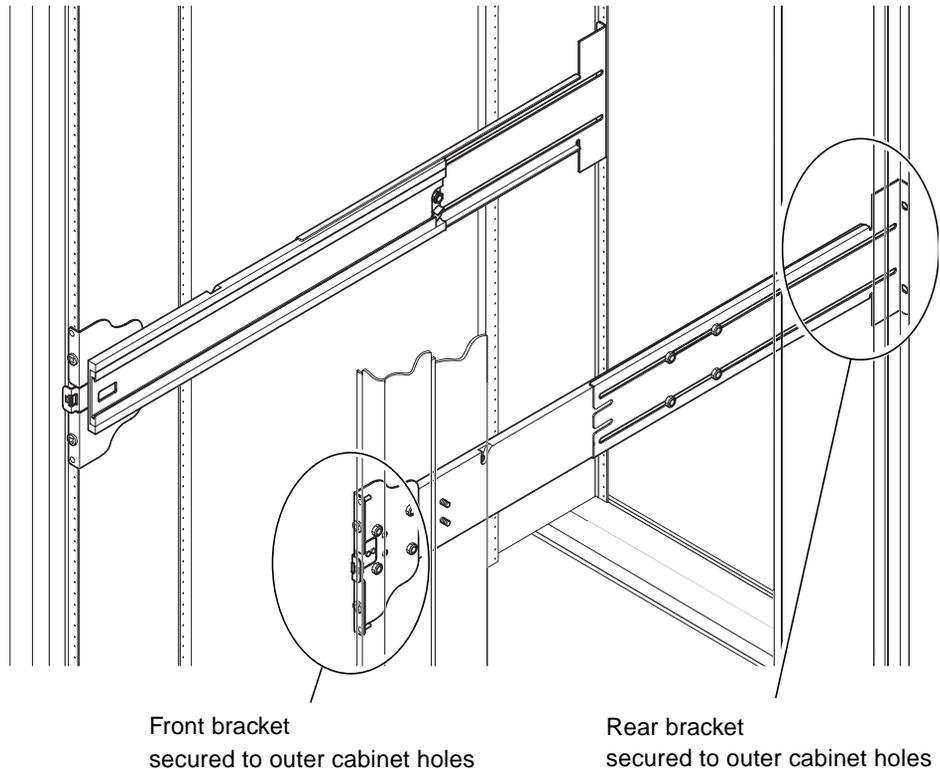

FIGURE 1-7 Installing the Rails in a Sun Rack 900 Cabinet or 19-Inch Four-Post Cabinet
3. Insert the pins in the front bracket into cabinet holes 22 and 33 (FIGURE 1-7).
3. Insert the pins in the front bracket into cabinet holes 58 and 69 (FIGURE 1-7).
3. Secure the rear bracket with two No. 10-32 UNF screws (FIGURE 1-7).
4. Secure the front bracket with two No. 10-32 UNF screws (FIGURE 1-7).